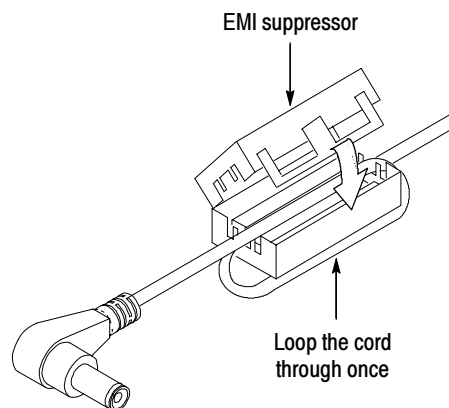

Figure 6-15: Installing the EMI suppressor
2. Loop the AC adapter cord through the middle of the EMI suppressor. Close the EMI suppressor until the sides of the suppressor latch together. See Figure 6-15.